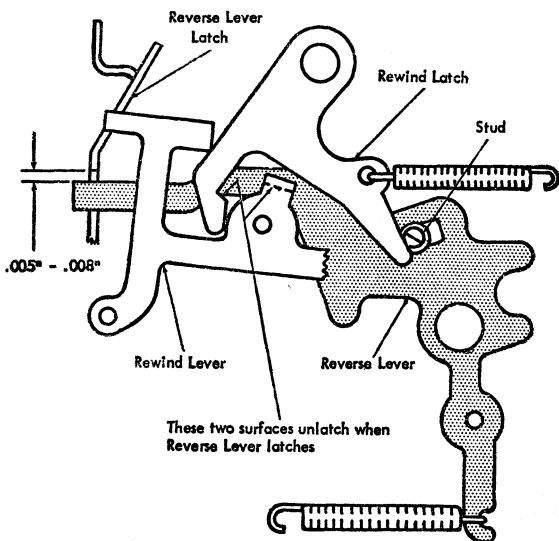

Figure 44. Reverse Lever Stud
14. REVERSE LEVER STUD. To insure winding the ribbon fully onto the left ribbon spool during rapid rewind, the rewind lever must not be released from its raised position before the reverse lever is latched (Figure 44). Position the stud on the reverse lever to release the rewind latch from the rewind lever, when the reverse lever has moved counter clockwise past its latch .005" to .008".